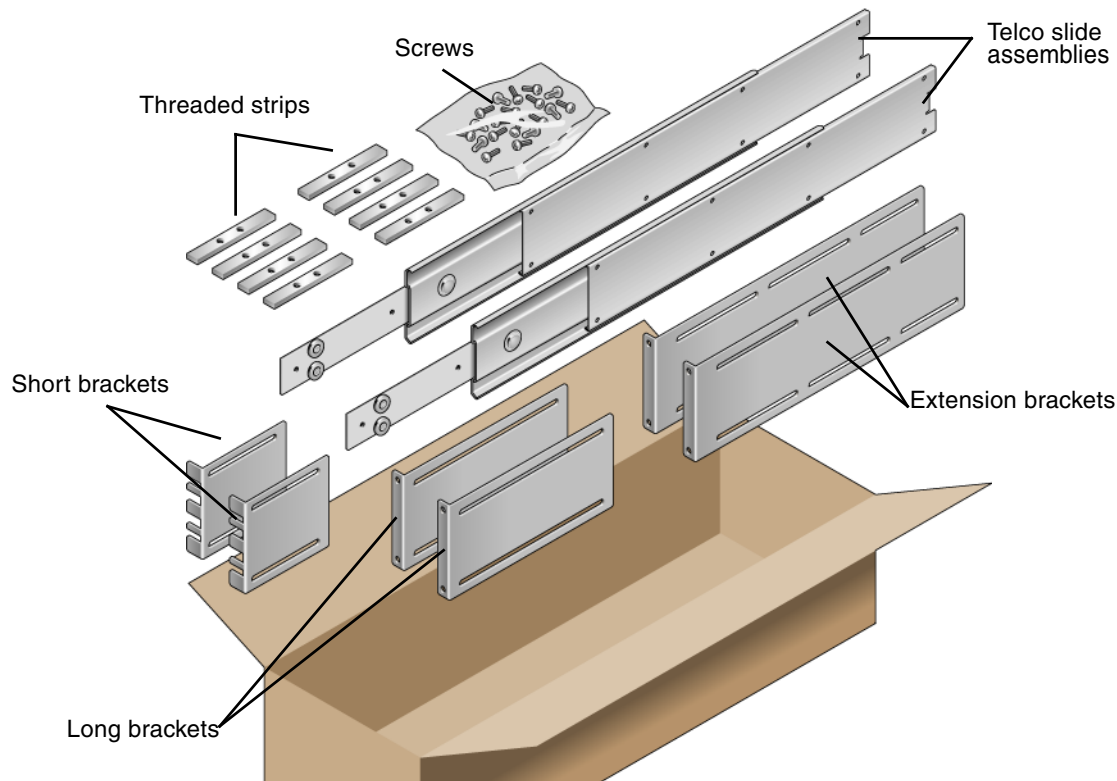

FIGURE 2-6 Contents of the Sliding Rail 19-Inch 4-Post Kit
3. **Get the Telco slide assemblies from the rack kit (FIGURE 2-6).**
6. Get the short brackets and long brackets from the rackmount kit (FIGURE 2-6).